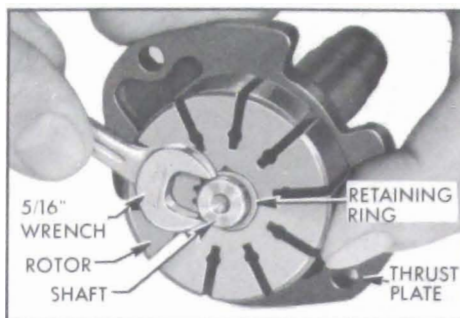

Figure 8-72—Removing Shaft Retaining Ring
13. Remove shaft retaining ring from end of shaft with a 5/16" open end wrench, being careful not to damage rotor. See Figure 8-72. Remove rotor and thrust plate from shaft.